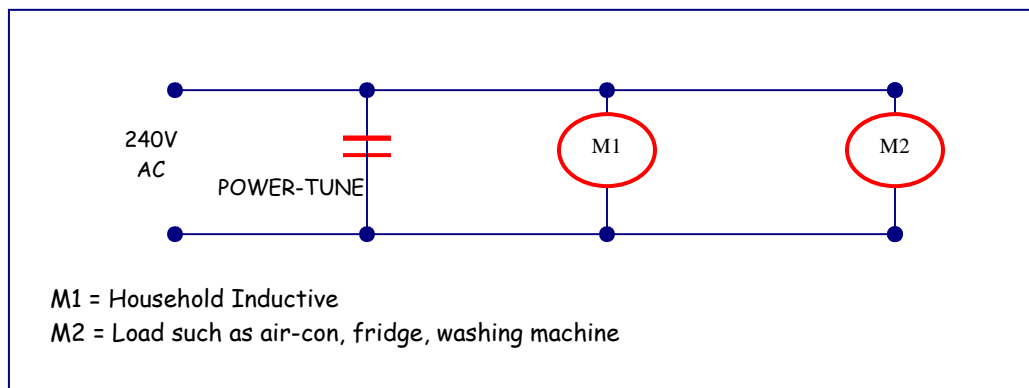
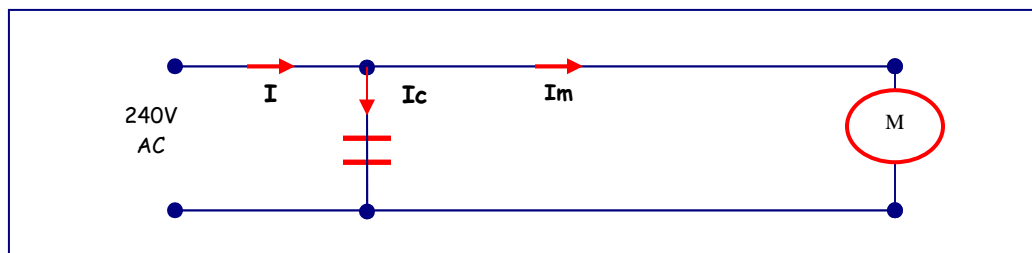
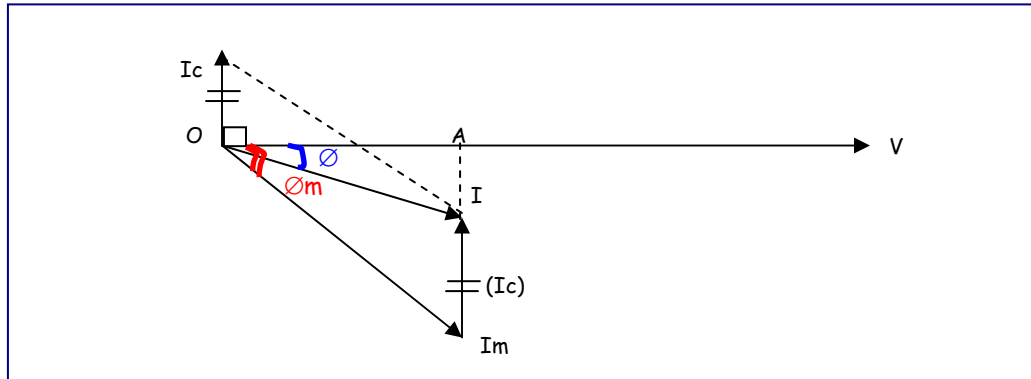

Figure 1: Illustrating the Concept
Figure 3: With Power Tune in Circuit ($I = I_c + I_m$)
Figure 4: Electrical Phasor of Figure 3
- A household power point (13A) distribution circuit normally has three (3) 13A power-point socket outlets connected in parallel, as shown below.
- The first power point in the distribution circuit would be the best point for connecting the power-tune, as shown below in Figure 1.
- e. Now, if we place the power tune (capacitance) in the first power point outlet of the power distribution circuit as shown in Figure 1, the circuit diagram becomes as shown below in Figure 3. The respective electrical phasor diagram is as shown in Figure 4.
From Figure 4,
- h. This component are represented by OA as in Figure 4,
- k. Thus, from Figure 4 (of the phasor diagram) it will be seen that: